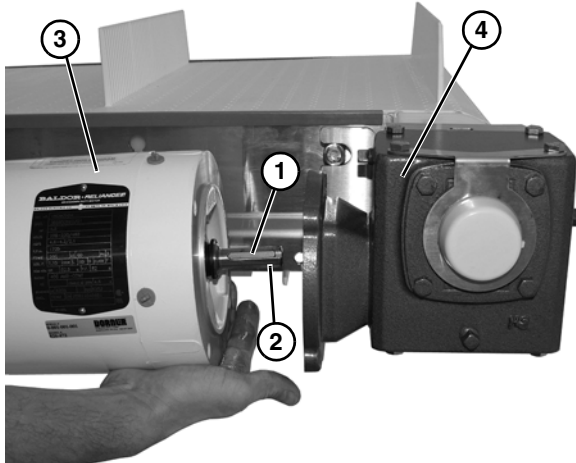

Figure 8
7. Install shaft key (**Figure 8, item 1**) onto motor shaft (**Figure 8, item 2**), and install motor (**Figure 8, item 3**) onto gear reducer (**Figure 8, item 4**).